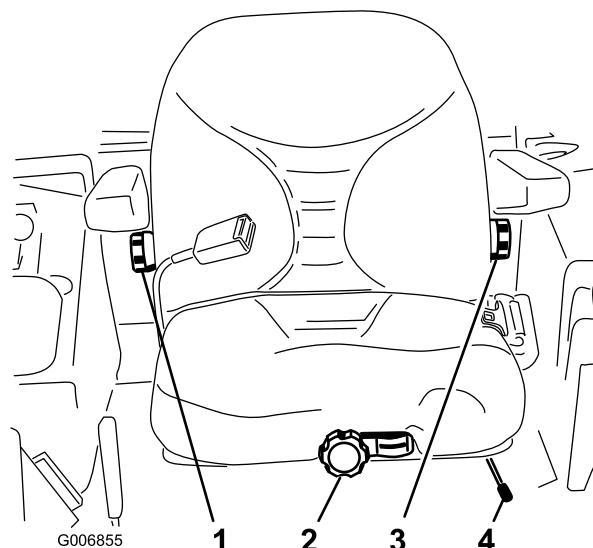

Figure 23
1. To adjust, move the lever sideways to unlock the seat (Figure 23).
Without sitting on the seat, turn the knob in front either direction to provide the best comfort (Figure 23).
To adjust it, turn the knob, under the right-side arm rest, in either direction to provide the best comfort (Figure 23).
To adjust it, turn the knob under the left-side arm rest, in either direction to provide the best comfort (Figure 23).